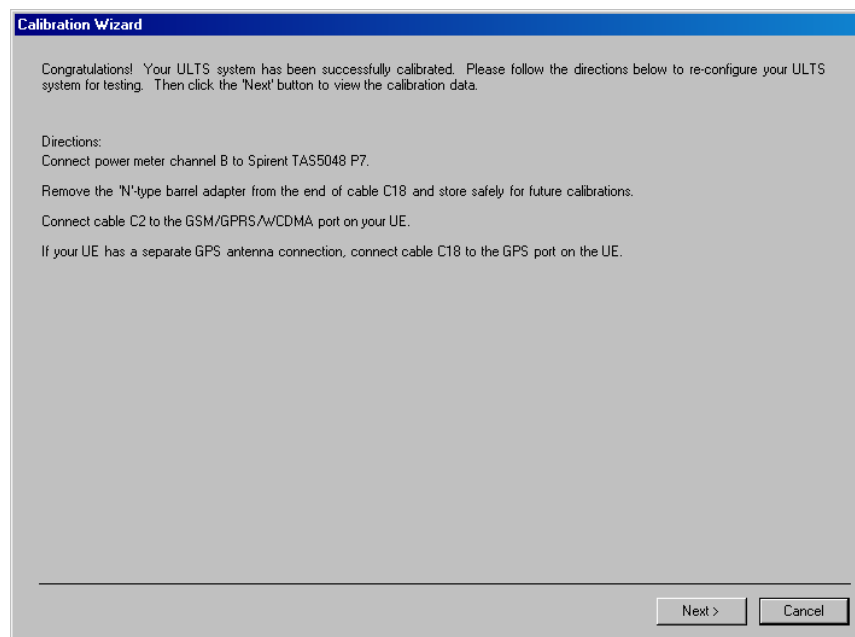

Figure 4-8: Location Based Calibration - Confirmation/Reconfiguration Window
5. The final Calibration Wizard window is shown in Figure 4-8.